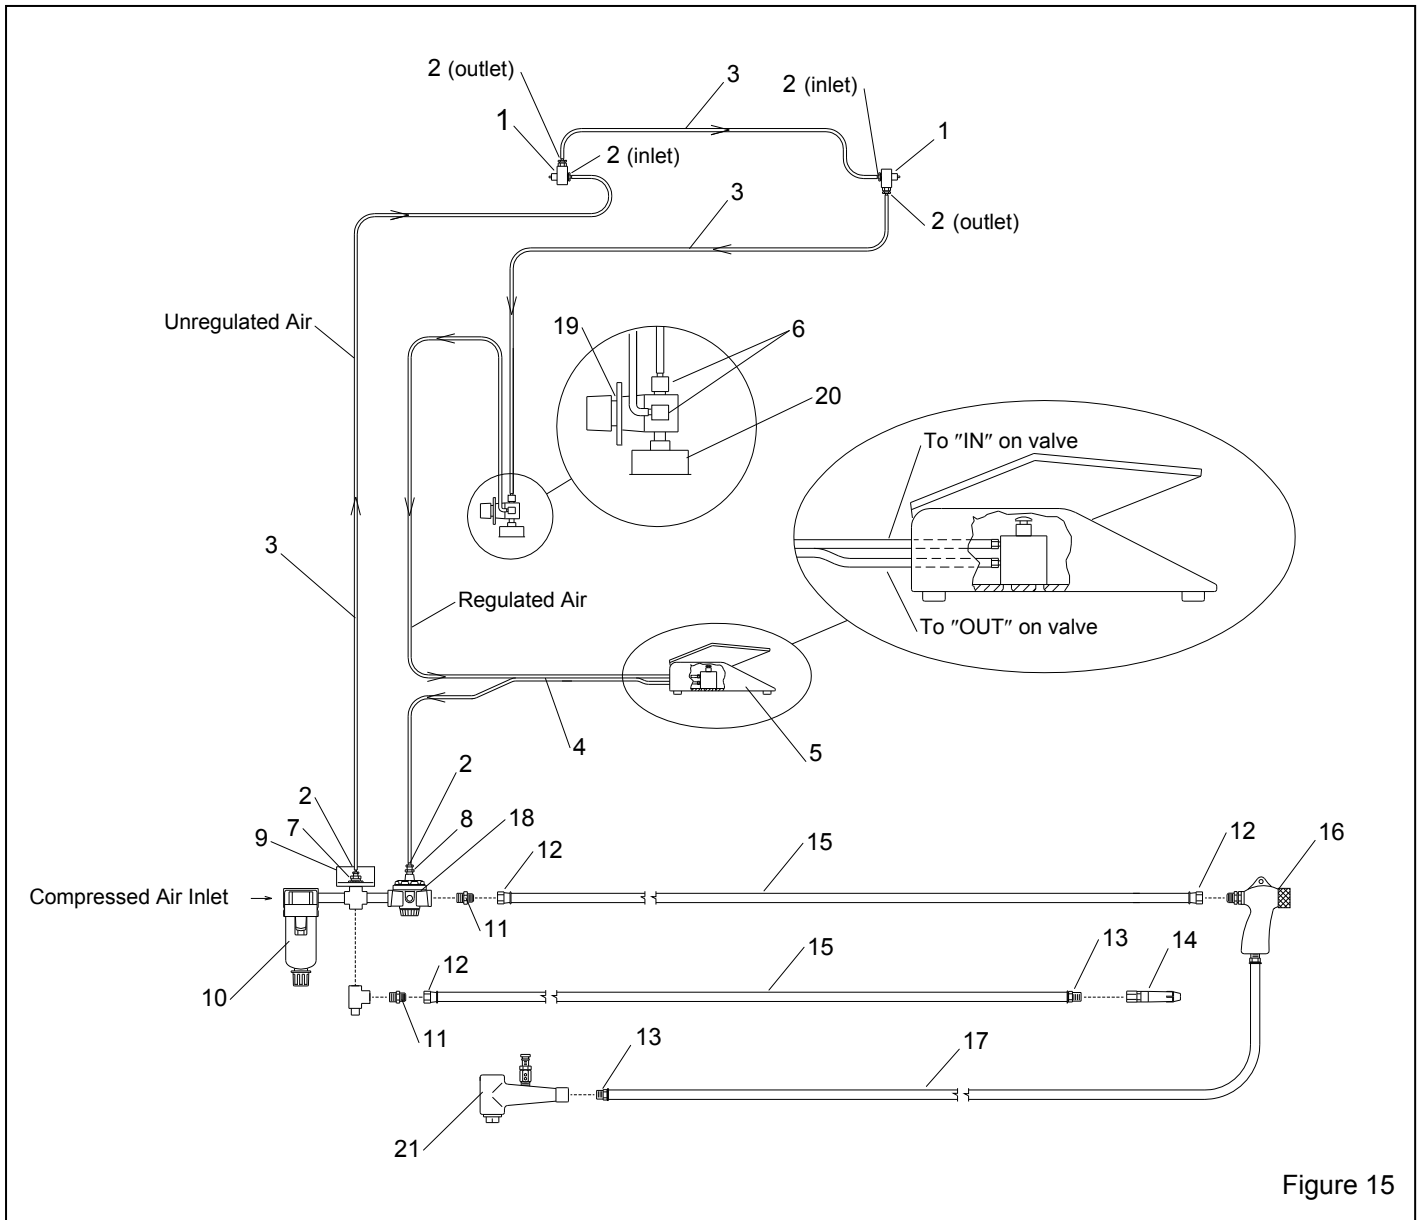

Figure 15
9.7 Cabinet Plumbing Assembly, Figure 15